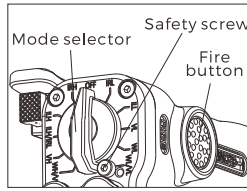

Fig 6
4.4 Mode Selector(Fig 6)
Operation:(Fig 6)